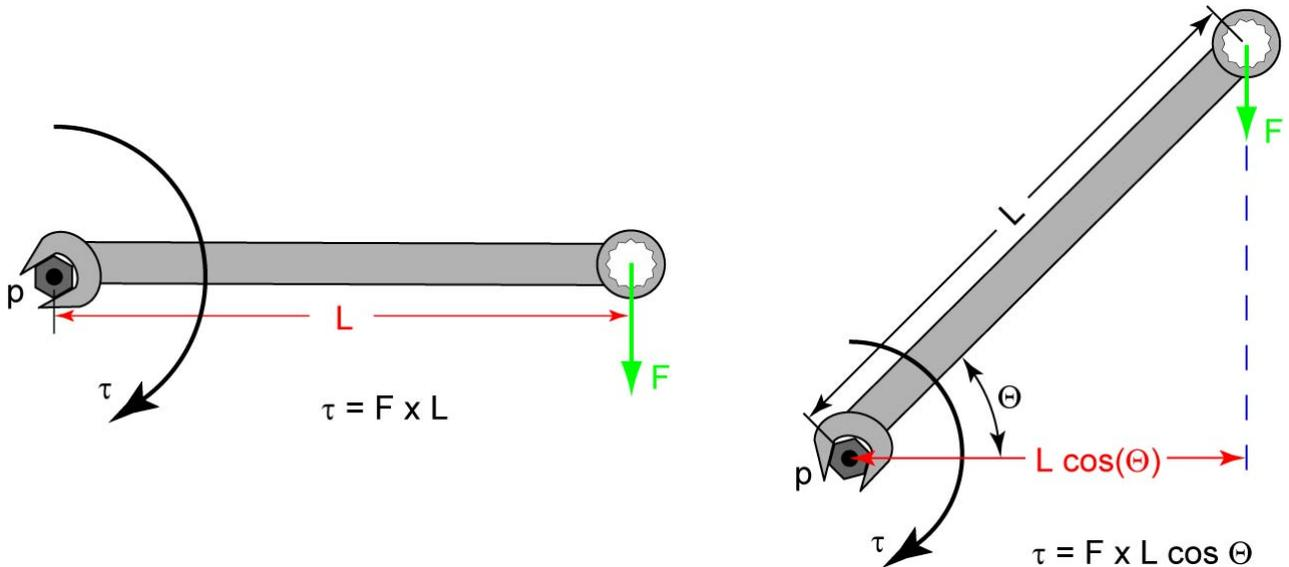

Figure 12: Two Illustrations of Torque τ about Point p Created by Force F
- More specifically, torque τ about a point (p) is equal to the force (F) times the distance measured perpendicular to the line of the force. See Figure 12.